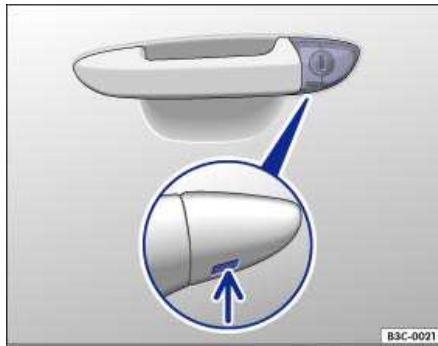

Fig. 176 Door handle on driver door: Concealed lock cylinder.
- ☐ Insert the emergency key from below into the opening of the cover cap on the driver door ⇒ fig. 176 (arrow) and lift the cover cap off. Grasping the door handle and pulling slightly makes it easier to remove the cap.